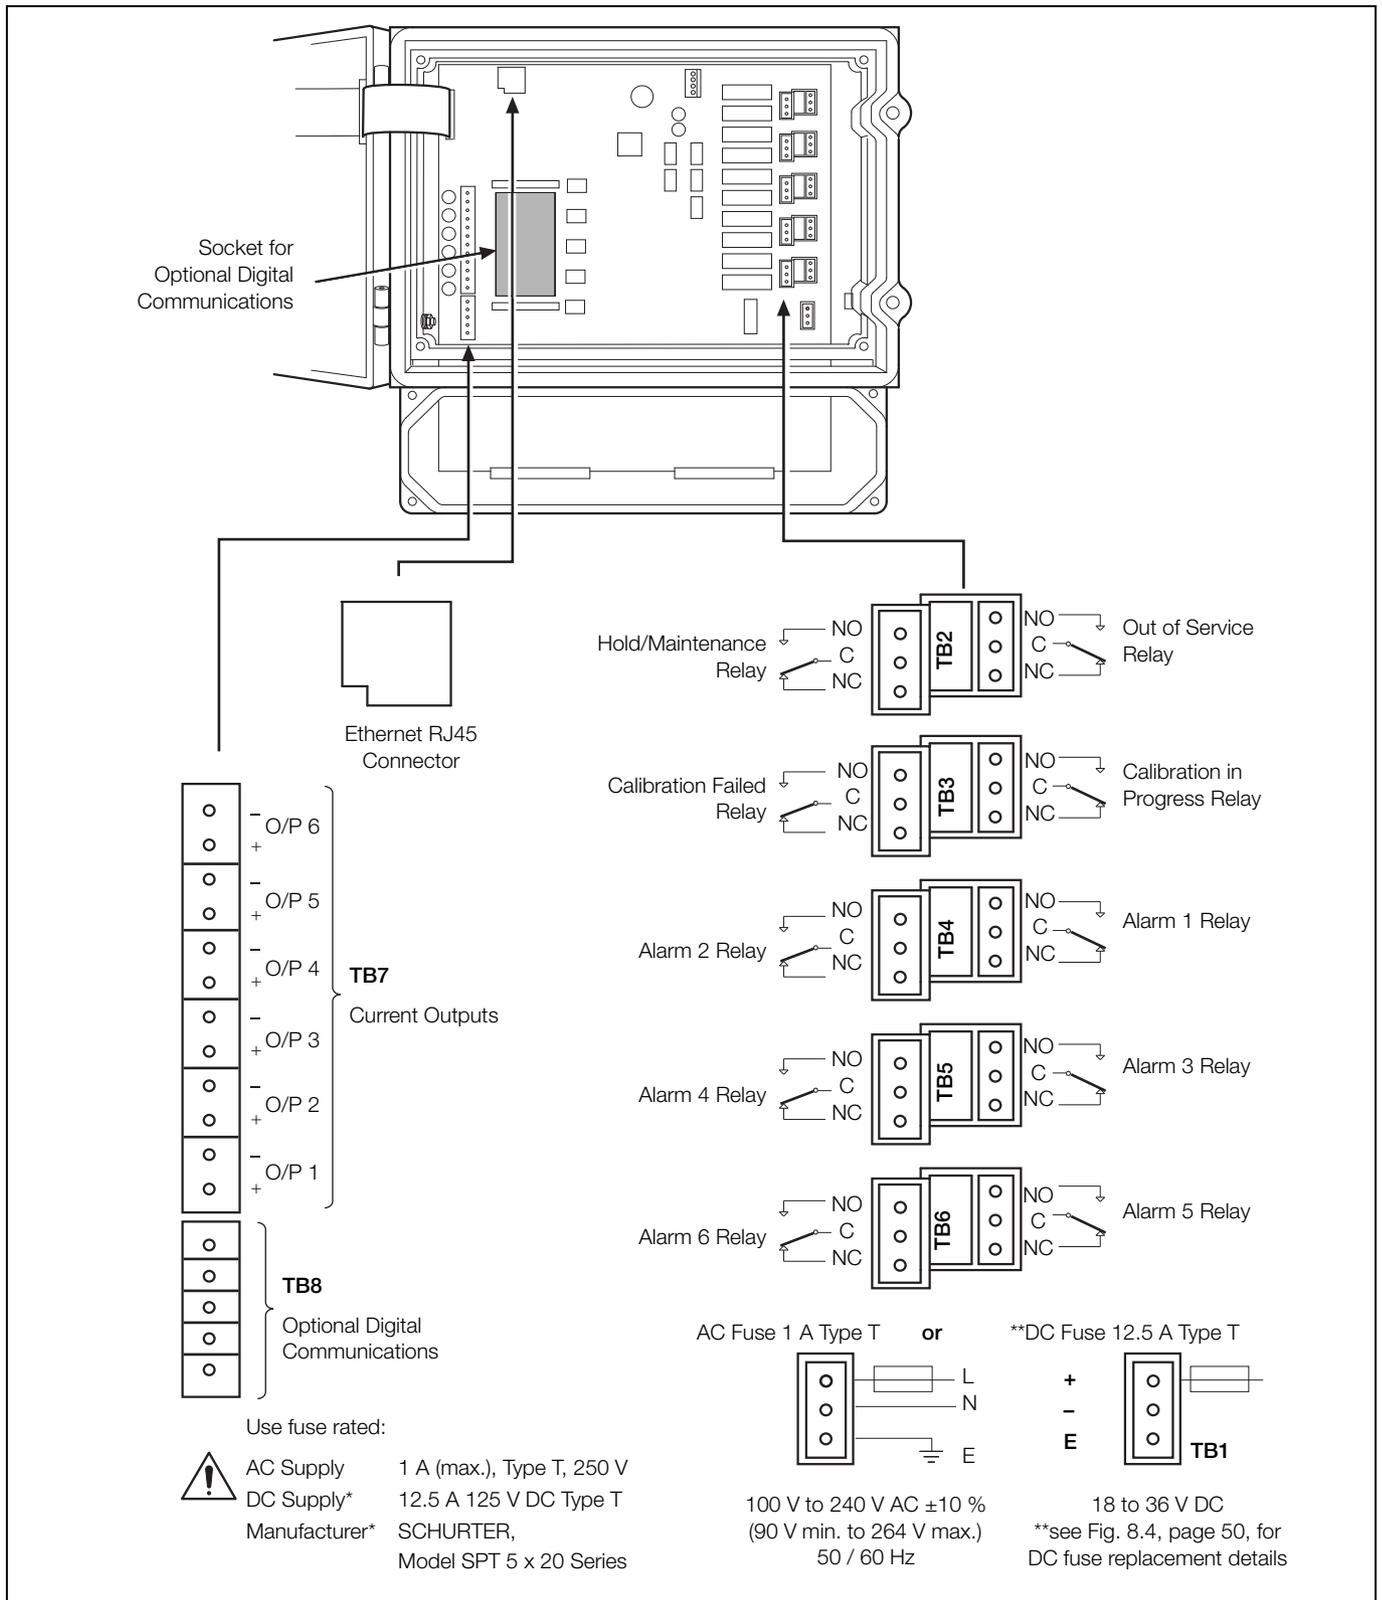
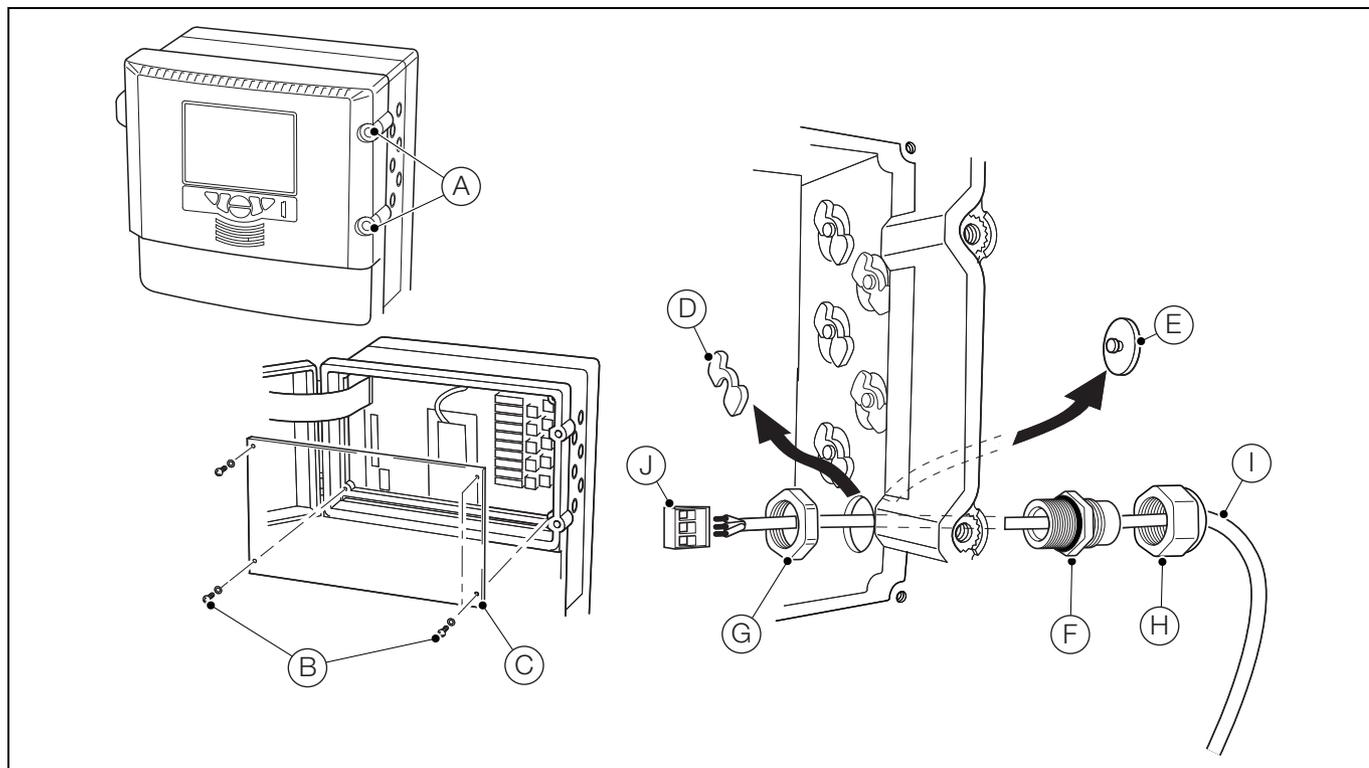
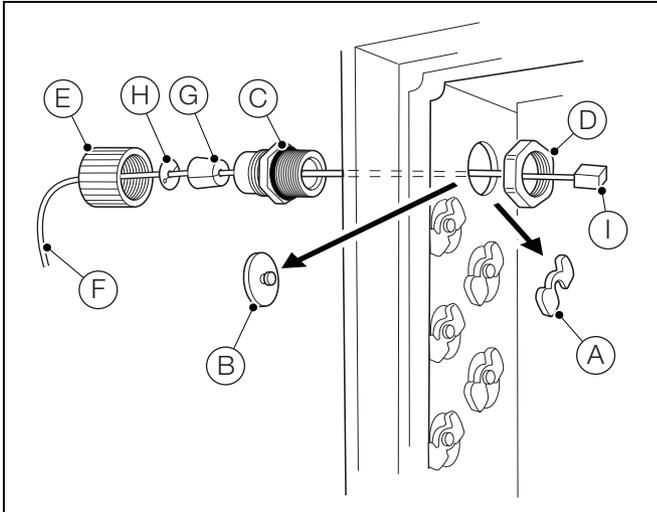

Fig. 4.8 Connections Overview
Fig. 4.9 Accessing and Making Electrical Connections
Fig. 4.10 Ethernet Connections
- Ensure the correct fuses are fitted – Fig. 4.8, page 17, for fuse details.
- Application board connection labels for the terminal blocks are identified in Fig. 4.8, page 17.
Referring to Fig. 4.9:
1. Turn door retaining screws (A) $\frac{1}{4}$ turn counter-clockwise and open the electronics section door.
2. Using a cross-head screwdriver, remove 4 screws (B) and remove transparent cover plate (C).
3. For each cable entry required, slide retaining clip (D) off blanking plug (E) and remove the plug.
4. Fit cable gland (F) and secure using nut (G).
5. Remove gland nut (H) and feed cable (I) through it.
6. Feed the cable through cable gland (F) and into the electronics section enclosure.
7. Remove each connection plug (J) and, using a small flat-bladed screwdriver, make connections to the plug. Ensure wires are connected to the correct terminals – see Fig. 4.8, page 17.
9. Tighten gland nut (H) for each connection made.
11. Replace transparent cover plate (C) and secure with 4 screws (B).
12. Close the electronics section door and turn door retaining screws (A) $\frac{1}{4}$ turn clockwise to secure.
1. Referring to Fig. 4.9:
- a. Turn door retaining screws (A) 1/4 turn counter-clockwise and open the electronics section door.
- b. Using a cross-head screwdriver, remove 4 screws (B) and remove transparent cover plate (C).
2. Referring to Fig. 4.10:
- a. Slide retaining clip (A) off blanking plug (B) and remove plug.
- b. Fit cable gland (C) and secure using nut (D).
- c. Remove gland nut (E) and feed cable (F) through it.
- d. Fit split-bush (G) and split-washer (H) to cable (F).
- e. Feed the cable through cable gland (C) and into the electronics section enclosure.
- f. Plug RJ45 connector (I) into the RJ45 socket on the application board (see Fig. 4.8, page 17 for location details) and tighten gland nut (E).
3. Referring to Fig. 4.9:
- a. Replace transparent cover plate (C) and secure with 4 screws (B).
- b. Close the electronics section door and turn door retaining screws (A) 1/4 turn clockwise to secure.